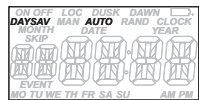

Fig. 4
- DAYS**AV and **AUTO** will show in the mode display area (Fig. 4). The timer will automatically adjust the clock for Daylight Saving Time (DST) when set to **AUTO** here. If you do not want the timer to do this, turn the selector knob until **MAN**ual shows.